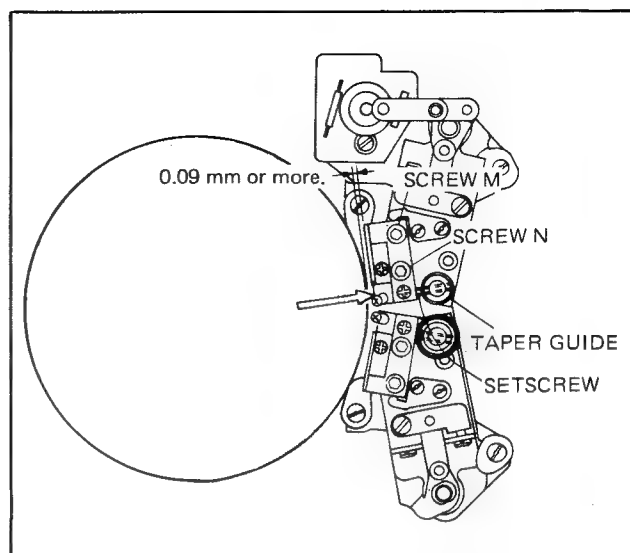

Fig. 3-87. Overlap C Adjustment
- Loosen screw N shown in Fig. 3-87. 1/2 to 1 turn.